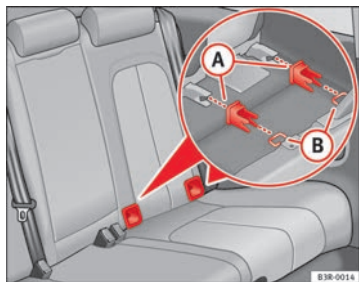

Fig. 32 Position of the ISOFIX anchors on the side rear seat
- Fit the plastic guides on the vehicle's ISOFIX anchorages between the backrest and the seat ⇒ **fig. 32**.